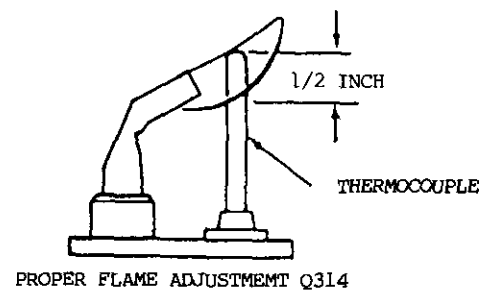

Figure 47 (4-031)
- c. Pilot flame should cover 1/2" of tip of thermocouple as shown in Figure 47.